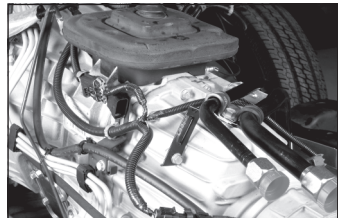

Fig. 22
24. Attach hydraulic tube support bracket (379848) to the transmission (Fig. 22).